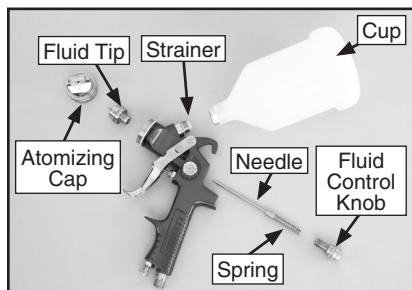

Figure 9. Disassembly for cleaning.
5. Unscrew the atomizing cap with your fingers and the fluid tip with the service wrench. The fully disassembled gun should look like **Figure 9**.